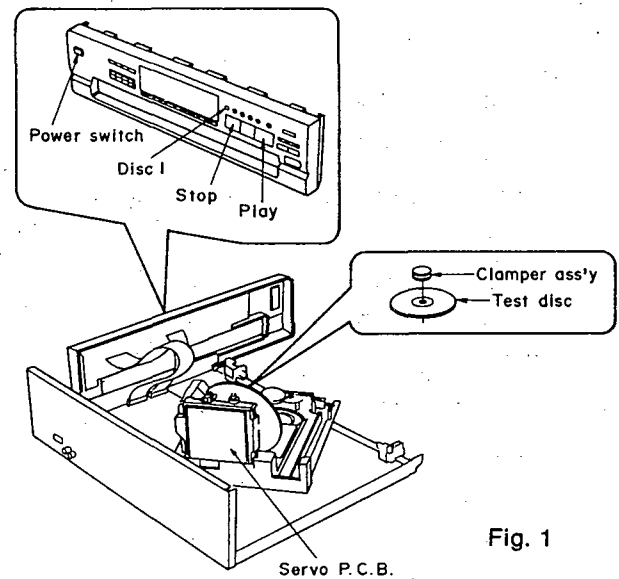

Fig. 1
6. Place the test disc and secure it by using clamper ass'y. (Refer to Fig. 1)
3. Leave the player in play mode and place it as shown Fig. 1.